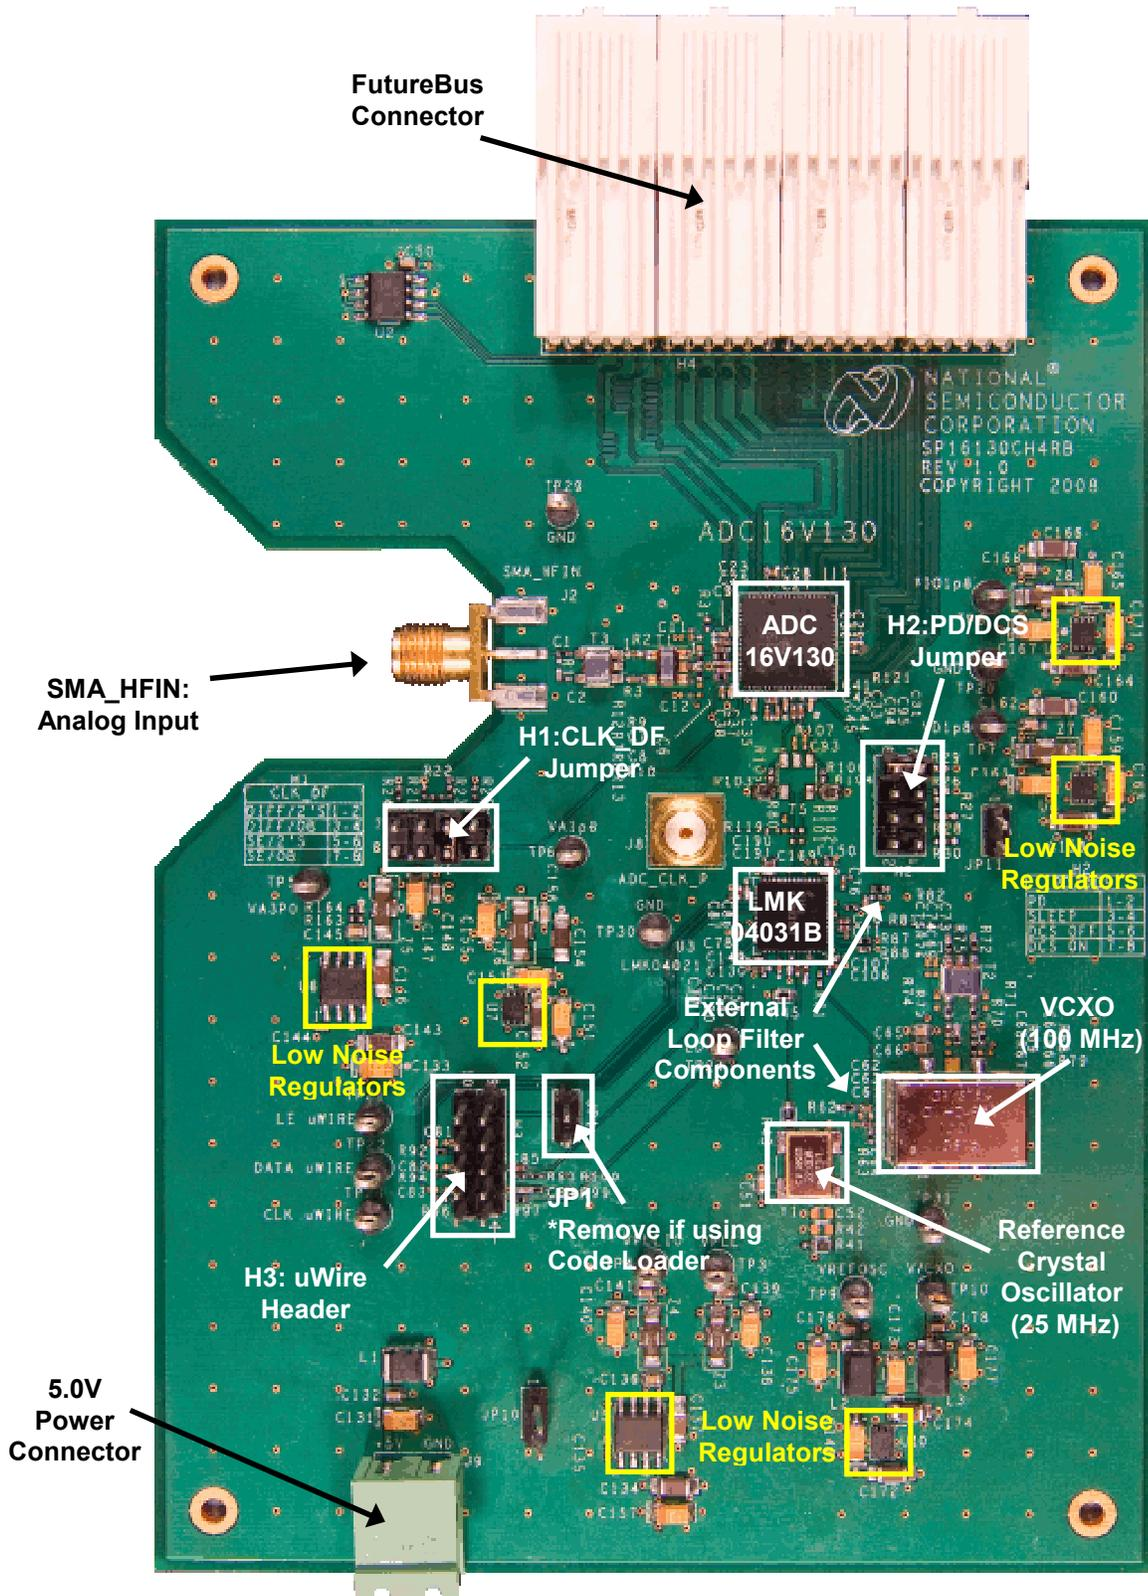
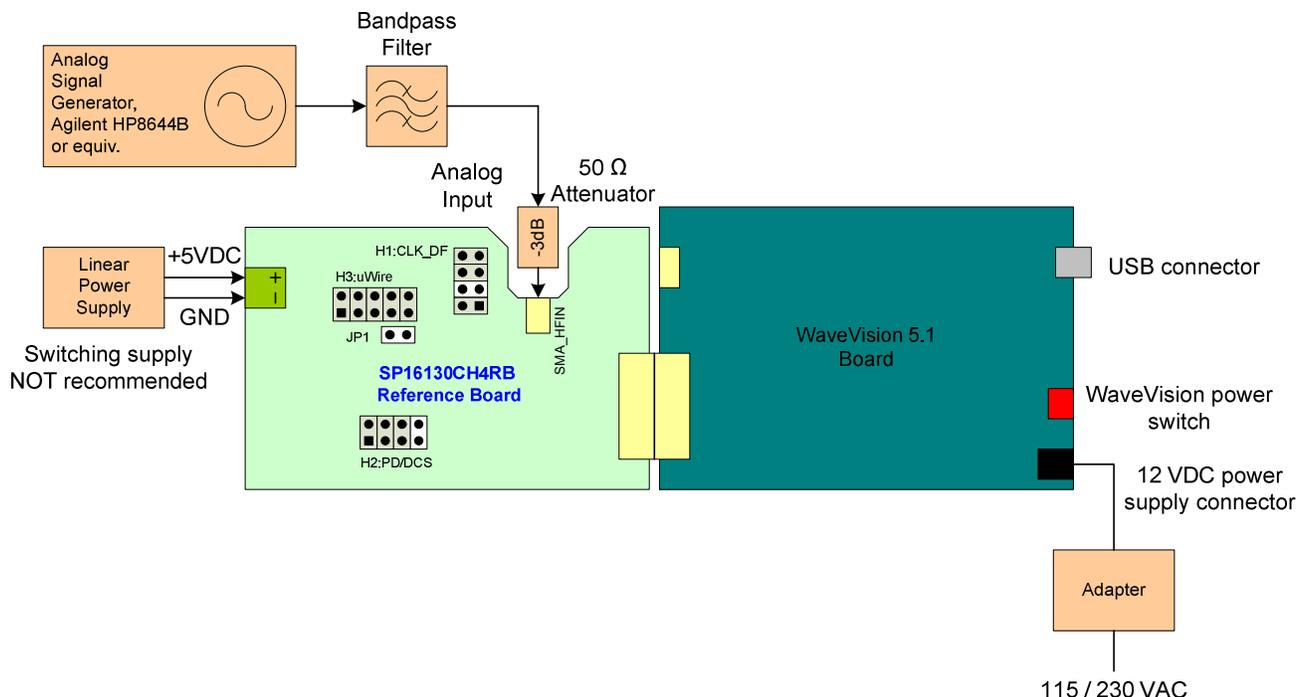

Figure 1: SP16130CH4RB Component, Connector and Jumper Locations
Figure 3: Connection Diagram for SP16130CH4RB and WaveVision 5.1 Data Capture Hardware
2. Connect the WaveVision 5.1 Digital Interface Board to your PC through the supplied USB cable and apply power to the WaveVision 5.1 board through the +12V AC-DC power adapter included in the WaveVision 5.1 hardware kit. The connection diagram is shown in Figure 3.
The SP16130CH4RB board jumpers should be configured as follows. Please refer to Figure 1 for the exact jumper locations.
- Connect the SP16130CH4RB reference board to the WaveVision 5.1 board through the FutureBus connector as shown in Figure 3. The SP16130CH4RB reference board should not be powered up, as the WaveVision hardware does not support hot-swapping of boards.
- Connect a 5.0V power supply capable of supplying up to 1A to the green, 2-terminal power connector located along the side edge of the SP16130CH4RB board. This is shown in Figure 3. Ensure that the polarity of the wires going to the green power connector match the "+5V" and "GND" labels on the evaluation board. Turn on the 5V supply.
- Connect the signal source to the "INP" SMA connector as shown in Figure 1. The recommended signal generators are the HP8644B (HP/Agilent) or the SMA100A (Rohde & Schwarz). A bandpass filter between the signal generator output and the SP16130CH4RB SMA connector is required to measure the true performance of the board. See Figure 3.
signal generator must be filtered to suppress the harmonic distortion and noise produced by the signal generator and to allow accurate measurement of the ADC's distortion performance. A tunable bandpass filter made by Trilithic (Indianapolis, IN) is recommended. Using only a lowpass filter is not recommended as the SNR performance is significantly degraded by the broad-band signal generator noise in the passband. See *Figure 3*.